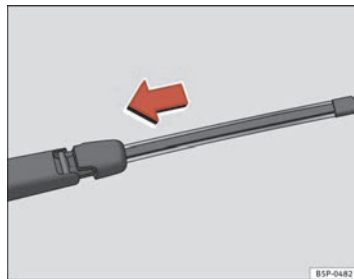

Fig. 184 Fitting the rear window wiper blade
- Place the blade as shown in the ⇒ page 239, fig. 184 and slide the adapter along until it engages.